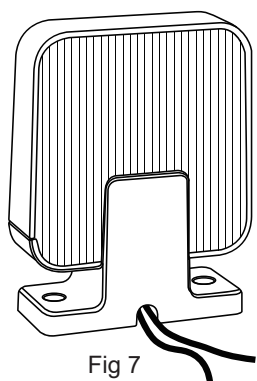

Fig 7
8. Fasten the yellow cover with the black holder, finish the installation Fig 7.